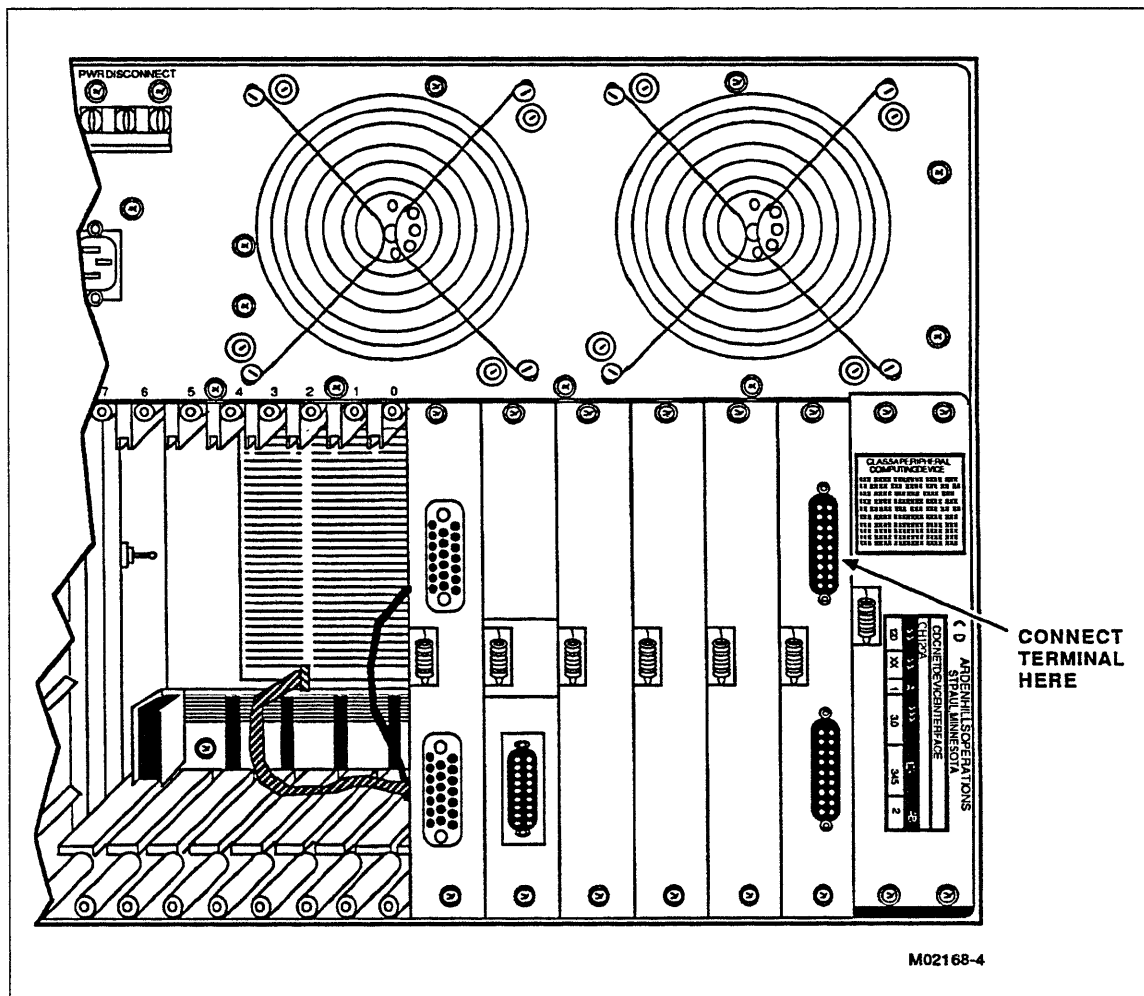

Figure 3-19. Connecting a Terminal to the MCO
2. If you use an MCO, connect a null-modem cable between the terminal and the top MCO connector, labeled TO MODEM, on the back of the DI (figure 3-19). Use part number 74875846 or equivalent cable.